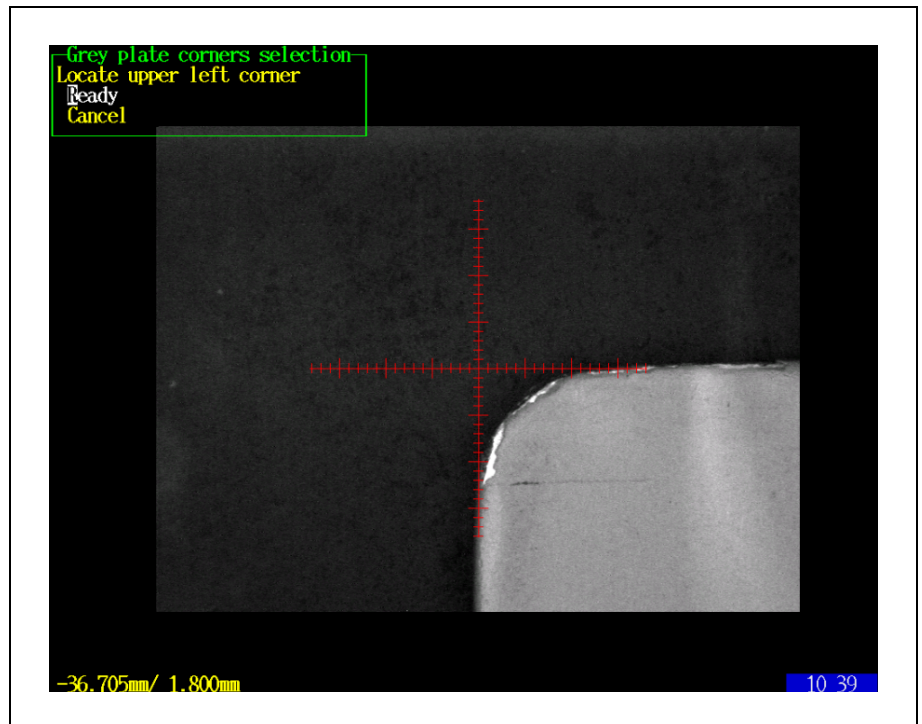

Figure 4-1. Locate the corners of the grey calibration plate.
- Grey Calibration Board, see Figure 4-1
4. When prompted, use the trackball to locate the corners of the grey calibration plate. See Figure 4-1.